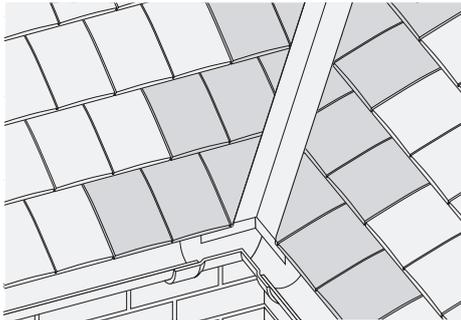

Fig. 21 – Typical bedded valley – tile-and-a-half tiles shown shaded
- 3 Bed raking cut tiles at edges of valley using mortar, ensuring that there is adequate space kept clear behind mortar to avoid water capillarity (Fig. 21).